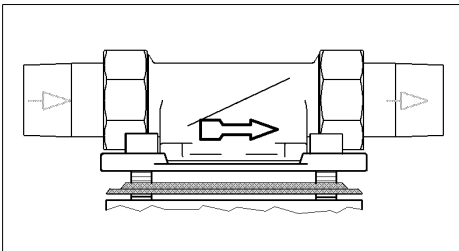

Fig. 1: Built-in rotary flange
- Direction of flow (see fig.1)